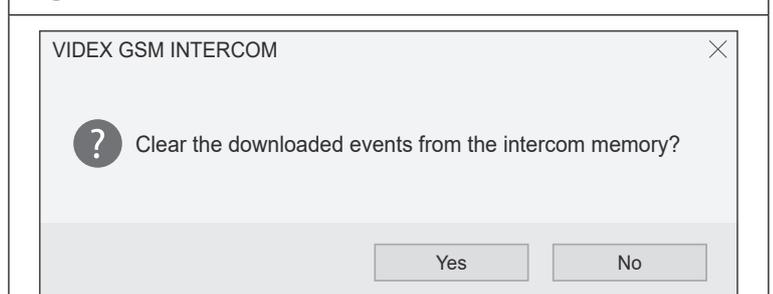

Fig. 73
- Once the event log has been saved the 'clear the downloaded events' prompt window will appear, as shown in **Fig.73**.